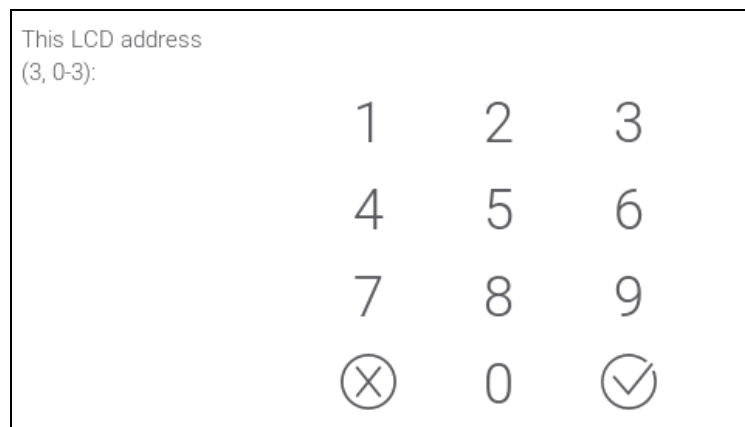

Fig. 12. Address setting.
1. Tap   . The “20.Kpd.address.” function will start. All wired keypads will display the message: “This LCD address (n, 0-3) [n - keypad address; 0-3 – range of supported addresses] (Fig. 12).